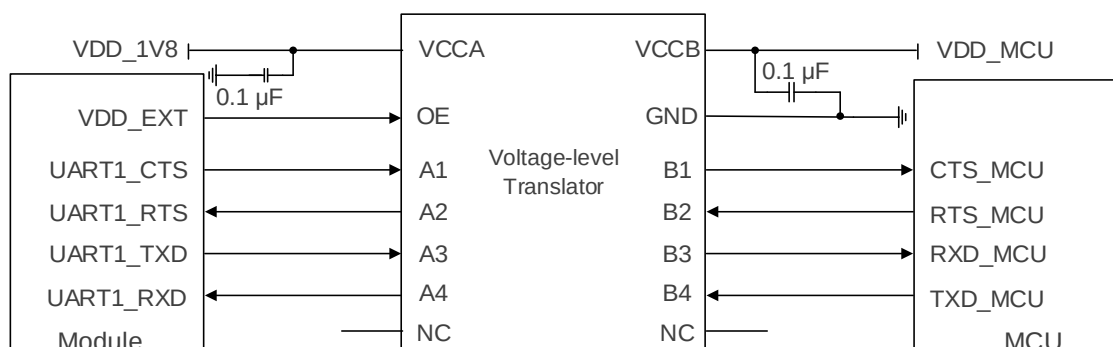
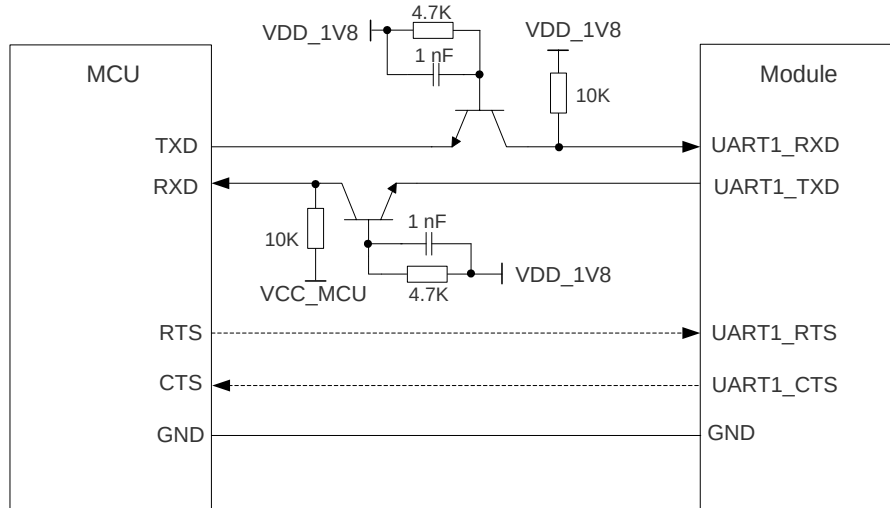

Figure 20: Reference Design of UART Interface with Translator Chip (UART1)
Figure 21: Reference Circuit with Transistor Circuit (UART1)
5. The level-shifting circuits (**Figure 20** & **Figure 21**) are illustrated using UART1 as an example. The circuits of the debug UART and the UART2/UART3/UART4 are connected in the same way as the UART1.